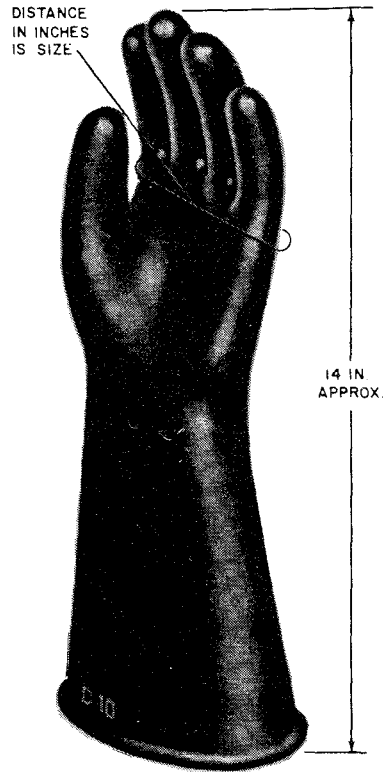

Figure 1 - Insulating Glove Size
3.01 E and F insulating gloves are the straight-cuff type and are available in Sizes 9-1/2,10,11, and 12. The size is equal to the approximate number of inches around the glove measured as shown in Fig. 1. The length of each glove, measured from the tip of the second finger to the outer edge of the gauntlet, is approximately 14 inches (Fig. 1).